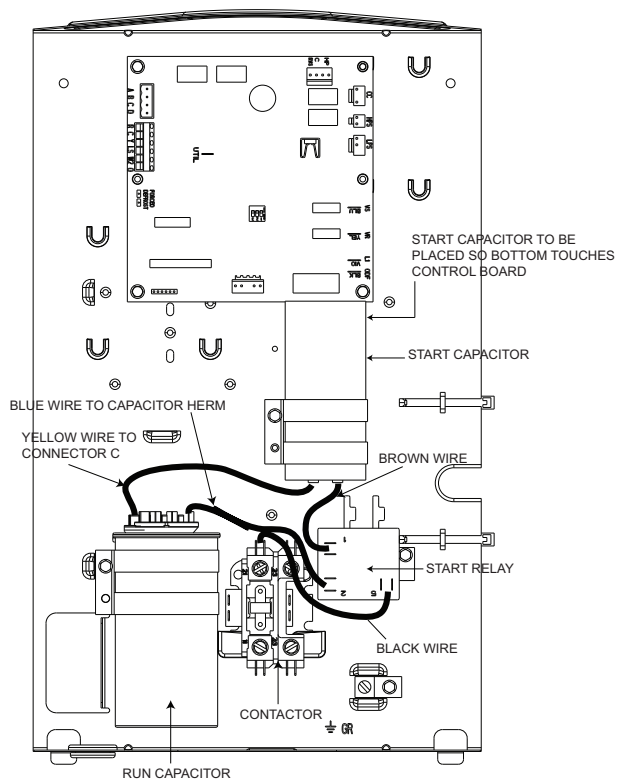
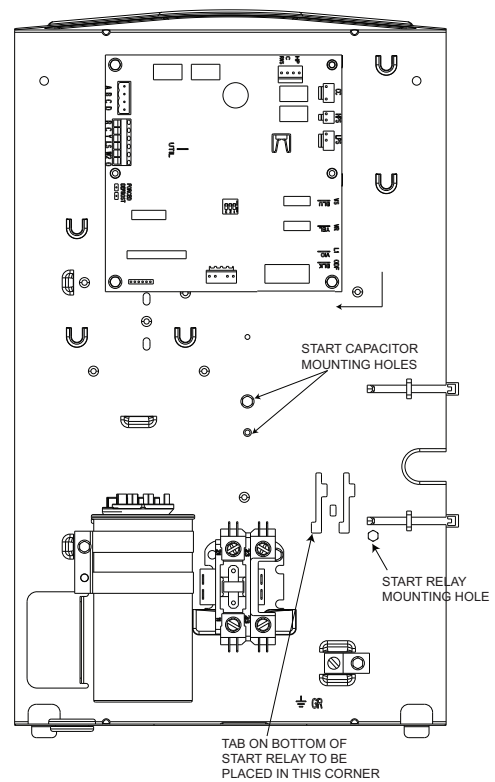

**Fig. 7 - Start Kit Components,
**Fig. 8 - Start Relay and Capacitor Mounting Locations
1. Attach start capacitor strap to start capacitor. Start capacitor will face downward and the mounting tab will be to the left-hand side. See Fig. 7.
2. Attach start capacitor and strap assembly to the control box as shown in Fig. 7 using the holes shown in Fig. 8. Two (2) screws are provided with kit to mount the capacitor strap.
3. Attach start relay to control box as shown in Fig. 7 using one of the screws provided. Locate the tab on the back of the relay against the corner specified in Fig. 8.